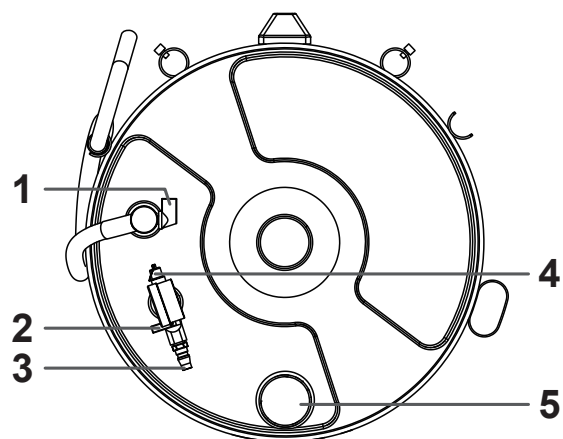

Figure 2
- Close the oil drain hose valve 1 (Figure 2).
- Close the oil tank air inlet valve 2 (Figure 2).
- Connect the air supply to the oil tank air inlet valve 3 (Figure 2).
- (Figure 2) Open the oil tank air inlet valve 2 to pressurize the tank. When a certain pressure is reached, the check valve 5 will automatically close. If the air pressure in the oil tank exceeds the rated pressure of the safety valve 4, the safety valve 4 will automatically relieve the pressure. Please close the air inlet valve 2 to stop pressurizing.